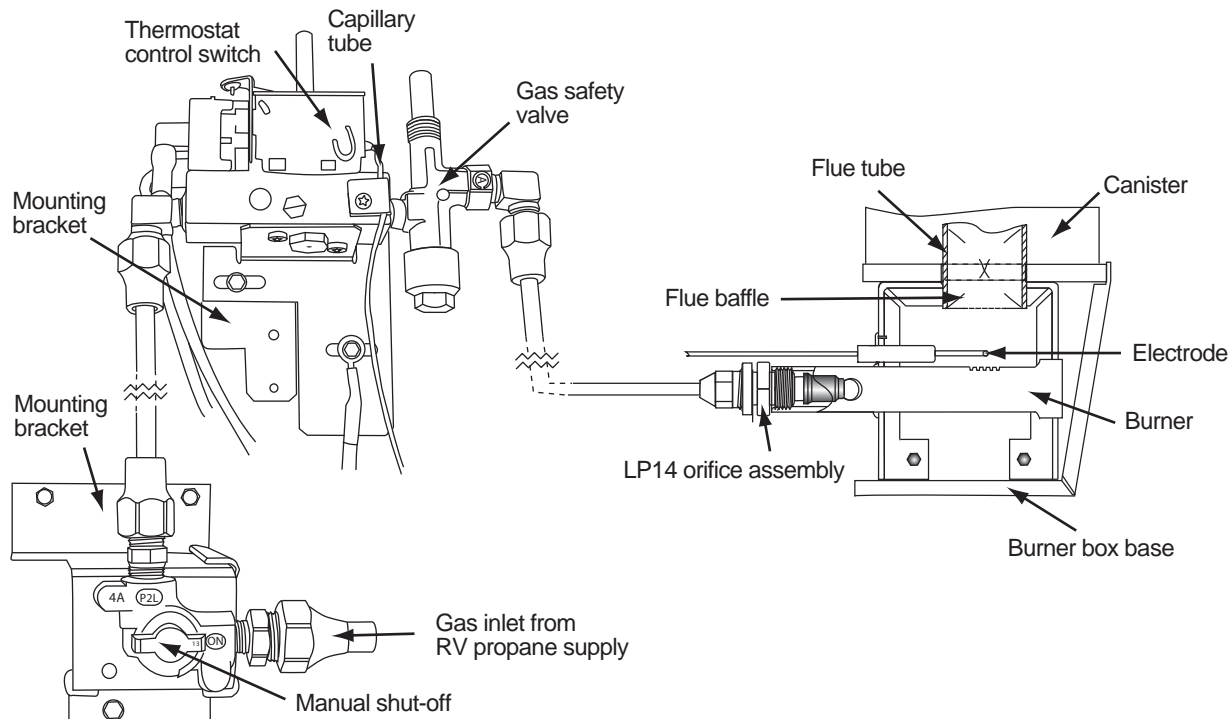
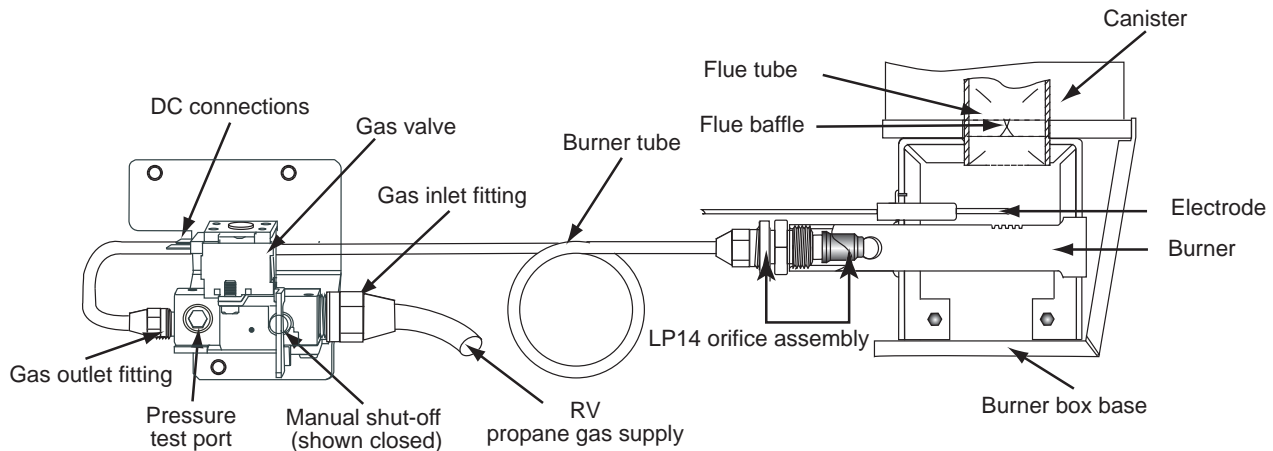

Figure 17. N500 propane gas system components
Figure 21. N41X/N51X propane gas system components
The gas safety valve is mounted on the control panel in the gas valve-thermostat assembly. See Figure 17. This valve is designed to stop the flow of propane gas to the burner when a flame failure occurs. Its operation is controlled by the thermocouple, which connects directly to the gas valve's interrupter. During the ignition process, the valve button must be held in (open) until a flame is established at the burner.
**For Steps 6 - 8, refer to Figure 17 (N500), or Figure 21 (N41X/N51X).**